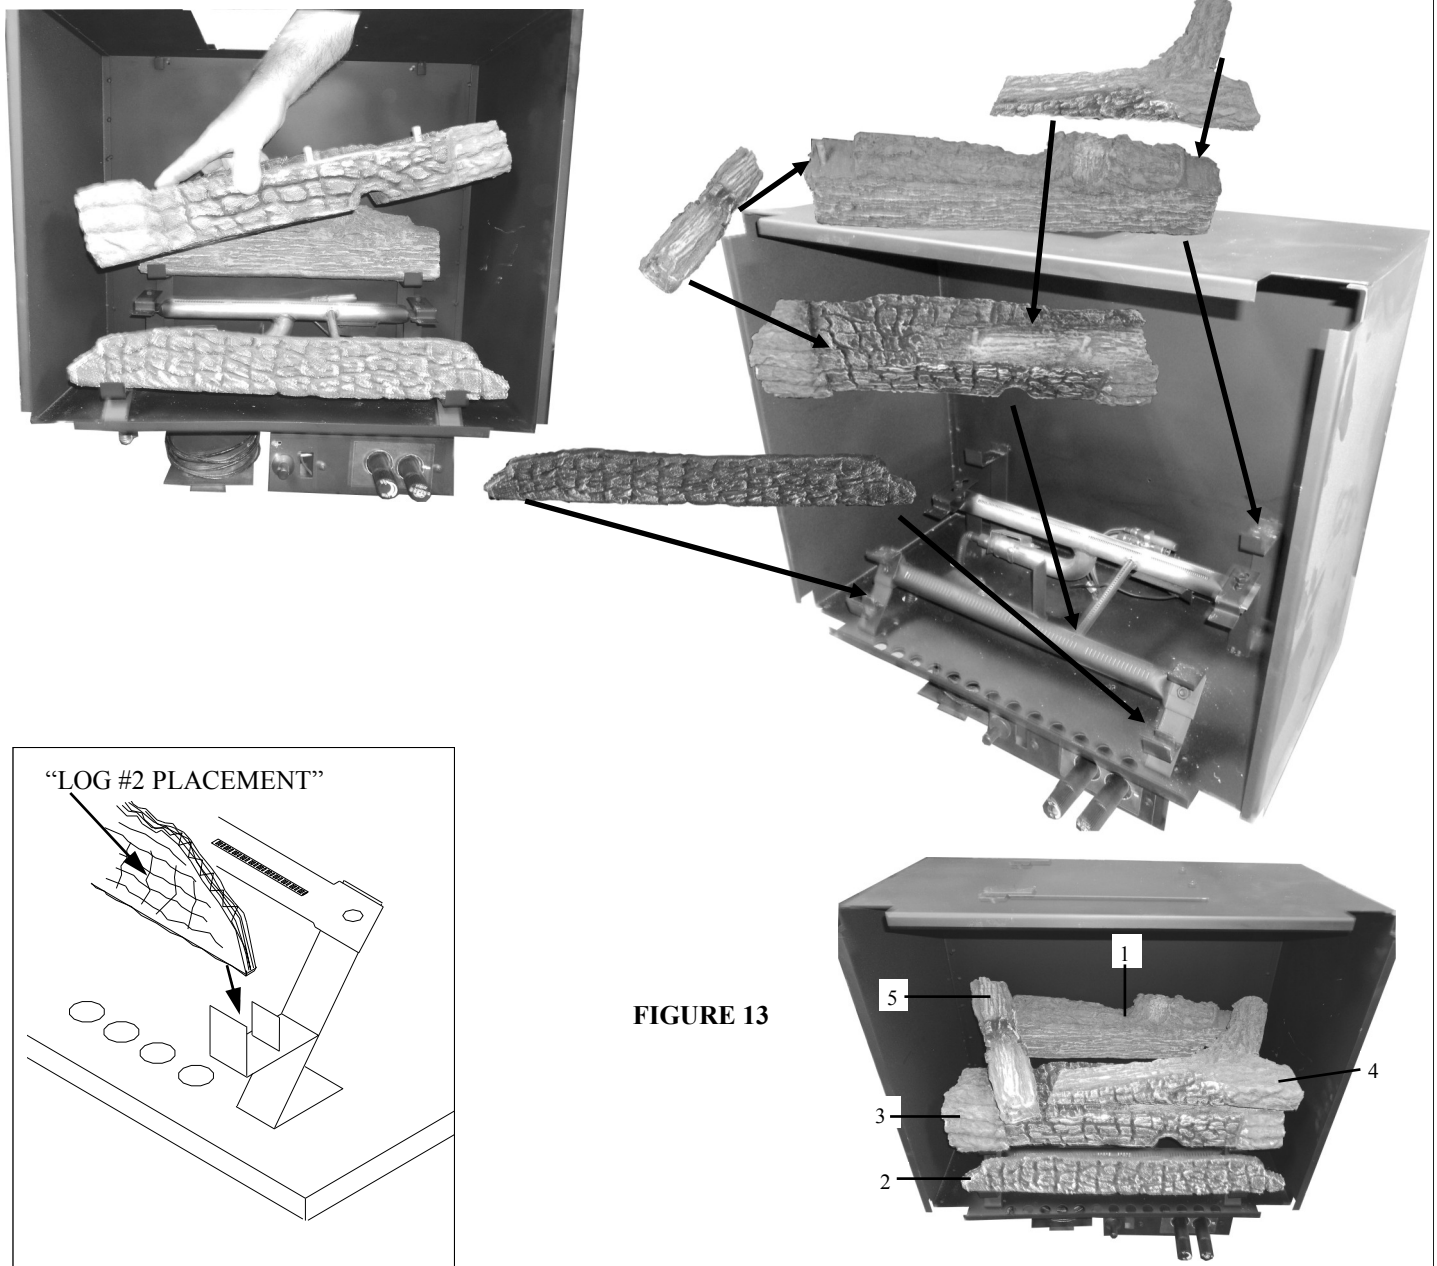

FIGURE 13
2. Carefully insert logs though opening in top of unit as described on (Page 13, figure 13).
4. Place access door on top of unit and secure with the two (4) phillips screws.
POSITIONING LOGS IS VERY CRITICAL, (SEE FIGURE 13) LOG PLACEMENT FOR LOG SET